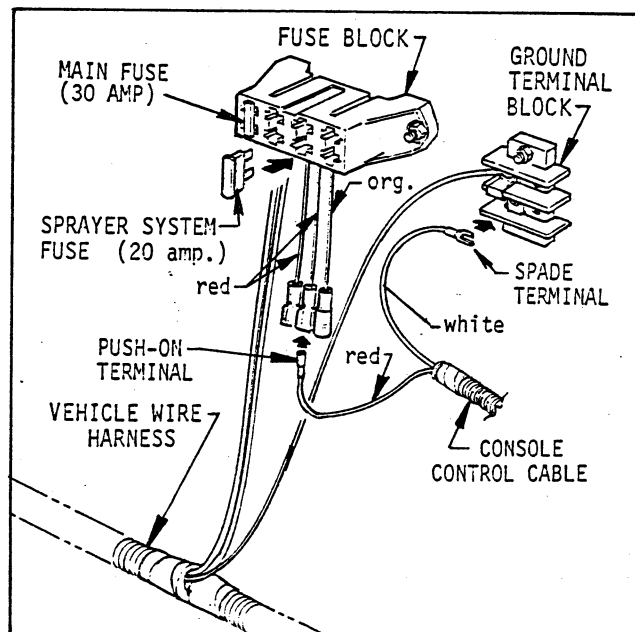

FIG. 5
■ Measure carefully and determine the length of white wire necessary to reach the Gound Terminal Block. Cut off the excess wire and crimp the spade terminal onto the stripped end. Connect the spade terminal to the Ground Terminal Block as shown in FIG. 5.
■ Measure carefully to determine the length of red wire necessary to reach the Fuse Block. Cut off the excess wire and crimp the push-on terminal onto the stripped end. Connect the push-on terminal to the male terminal on the red wire at the Fuse Block, as shown in FIG. 5.
■ Insert the 20-amp Fuse into the Fuse Block receptacle, as shown in FIG. 5.